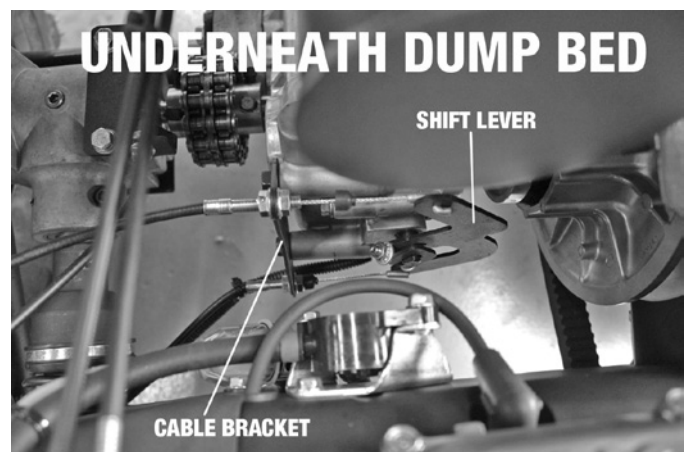

figure 7.4
5. Pull the slack out of both cables (but do not stretch the springs) and tighten the adjuster nuts or you can also use the adjuster nuts on the cable bracket located on the transmission. (figure 7.4)